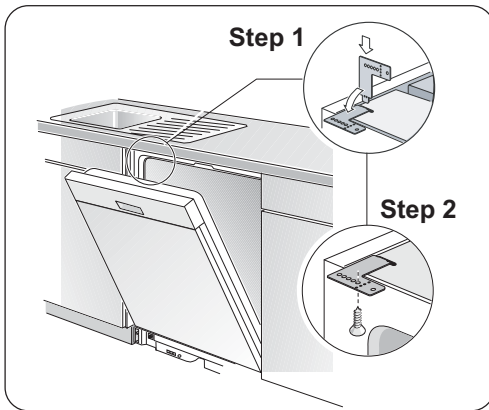

Figure 10
- 1 Top Mount** is used for countertops made of wood or other materials that can easily drilled. Orient the mounting brackets as shown in **Figure 10**, and position the two small tabs on the mounting brackets over the two slots on the dishwasher's front corners. Push the mounting brackets down firmly to insert the tabs into the slots.